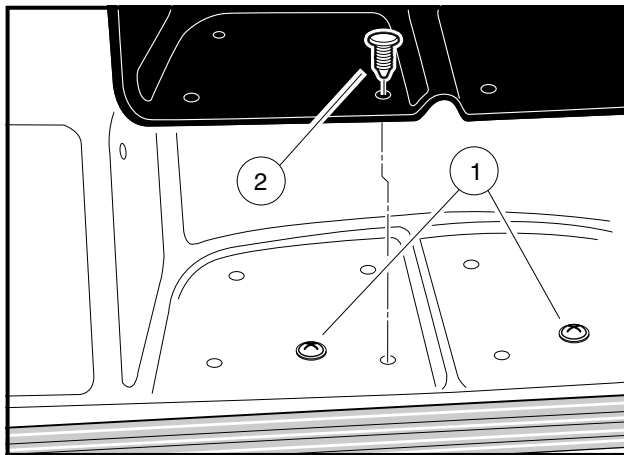

Figure 4-3 Remove Screws Under Bagwell Protector
3. Remove bagwell protector by gently pulling the bagwell protector at each plastic barrel (2) (**Figure 4-3, Page 4-7**).
4. Remove the two screws (1), lock nuts and washers located under bagwell protector in bagwell floor.
- 1.6. Tighten two screws (1), lock nuts and washers under rear body to 33 in-lb (2.8 N·m) (**Figure 4-3, Page 4-7**).